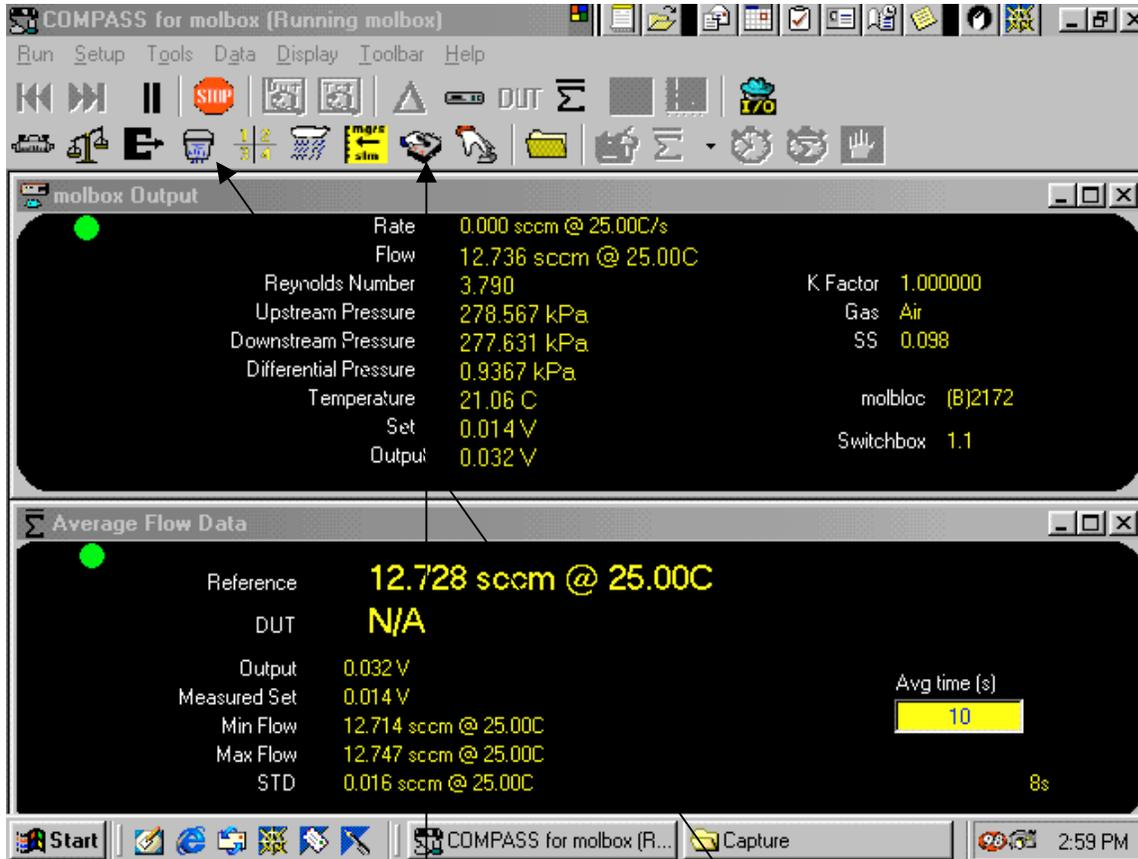
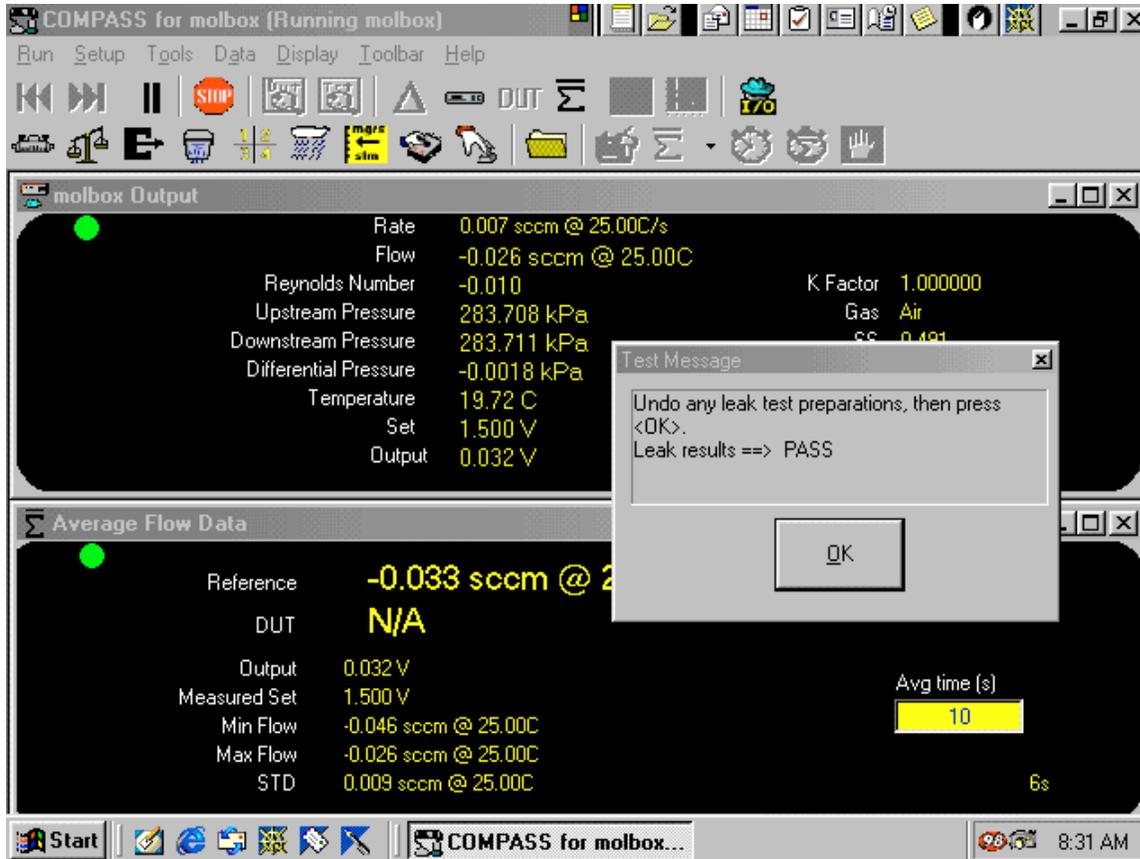

Figure 16 - Flow Control and leak test icons
Figure 19 - Successful leak test
11.2.1 Click on the "**Flow control**" button on the toolbar (see figure 16).
From the computer screen, read the Upstream and Downstream pressures; set the pressure to normal operating pressure, **250 to 325 kPa absolute pressures**, by entering a voltage between 0 - 5 volts that will get you within the normal pressure mention above. You may have to go back to the flow control window to get the pressures in range. Once the pressures are set, cap the exhaust downstream of the device under test. Close the pressure regulator valve upstream (see Diagram 1). Disconnect the gas supply, which will vent the system. Click on the leak test icon on the toolbar (see figure 16). Once the pressure has stabilized within the
After 60 seconds a test message box will pop up indicating pass or fail. If leak test is successful click on “**OK**” (see figure 19). If the test fails, check connections and redo leak test. If leak test fails again, let the owner know that a certification test can not be performed until the leak has been fixed. Reconnect the gas supply if you wish continue to use the Molbloc.
- 11.3.3 Using the computer monitor read the upstream and downstream pressures, set the pressure to normal operating pressure (**250 to 325 kPa absolute**). Cap the output of the flow controller. Close the pressure regulator valve upstream. Disconnect gas supply (i.e. to vent the system). Once the pressure has stabilized within the normal operating pressure mentioned above click on the leak test icon on the toolbar (see figure 16). Click on “**OK**” to start the test (see figure 18). After 60 seconds a test message box will pop up indicating pass or fail. If the test fails, check connections and redo leak test. If leak test is successful undo leak test preparations and click on “**OK**” (see figure 19). If leak test fails again let the owner know that a certification test can not be performed until the leak has been fixed.
11.4.1 See diagram 1 for MFM (Mass Flow Meter) setup. See diagram 2 for MFC (Mass Flow Controller) setup. Click on "**Run**" on the pull down menu and select "**Run test**" (see figure 16).